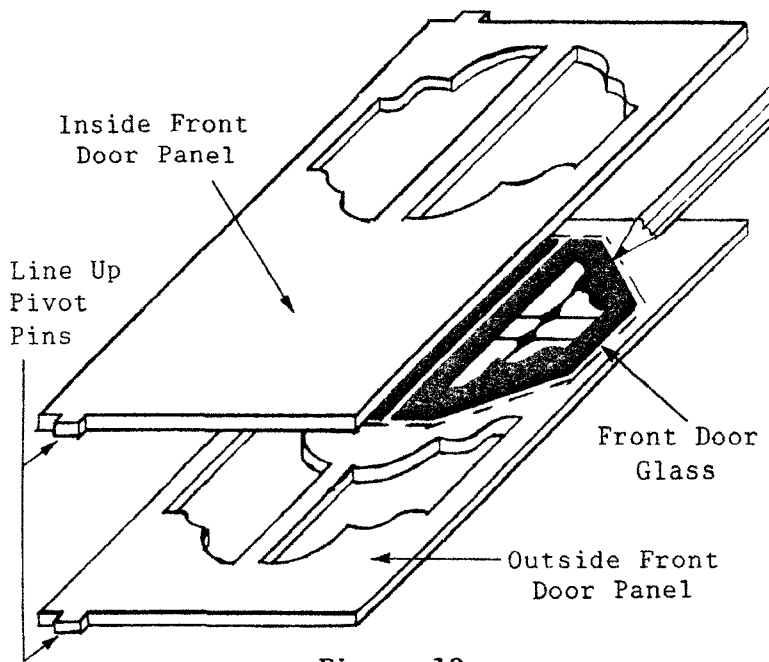

Figure 19
4. Add glue to all exposed wood. Lay the inside panels on the outside panels so that the pivot pins line up. Tape the panels together until dry. Figure 19.